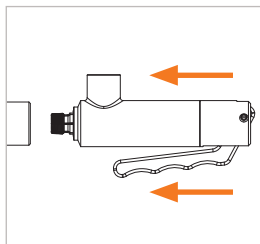

Figure 6
- ▶ With the hand lever (Pos. 2) pressed, insert the connector straight into the test piece until the front seal (Pos. 7) touches the test piece (Figure 6). Doing so will prevent any damage to the front seal caused by any sharp edges on the test piece and ensure a correct connection.